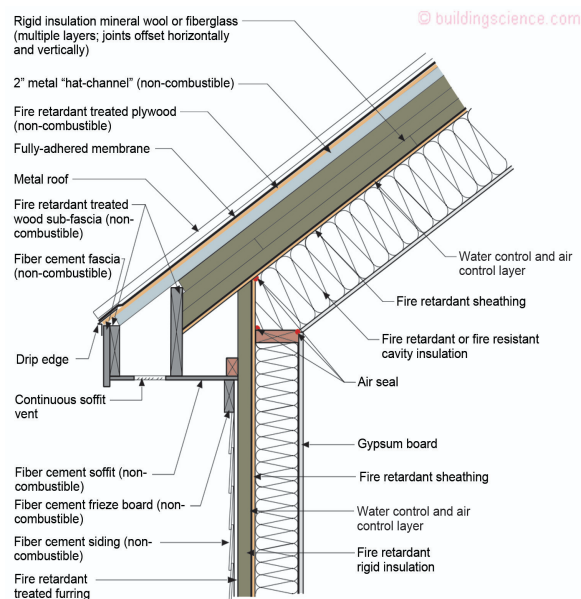

**Figure 4:** Building section showing a vapor diffusion ridge port constructed with fire resistant and fire retardant materials.
**Figure 3** and **Figure 4** show a building section connecting an unvented roof assembly constructed with fire resistant and fire retardant materials to a wall assembly with similar materials.